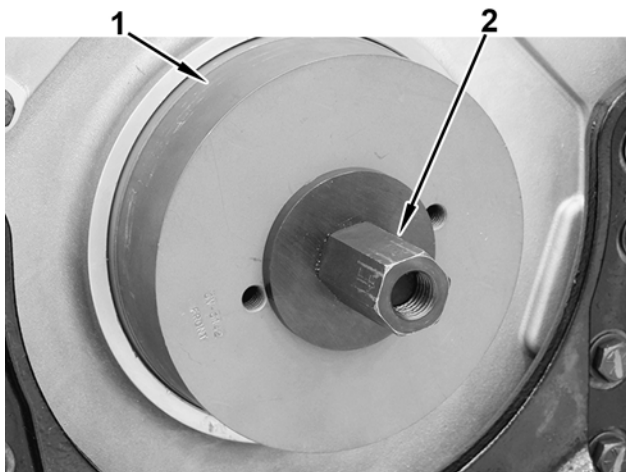

Figure 25 Seal Driver Setup
30. Install seal driver on hub adapter (Figure 25, Items 1 and 2).